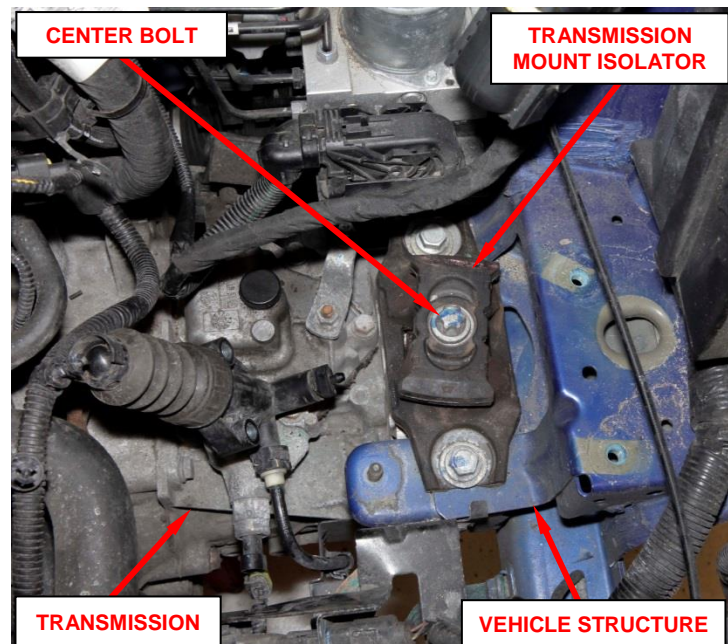

Figure 44 – Left Transmission Mount
44. Remove and save the center bolt from the left transmission mount isolator (Figure 44).